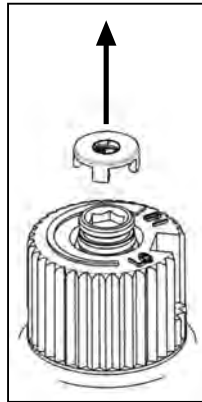

Figure 9:
- Remove the black protection cap from the HI/LO knob by hand shown in Figure 9.
- Re-attach the black protection cap that was removed in step a (Figure 9).